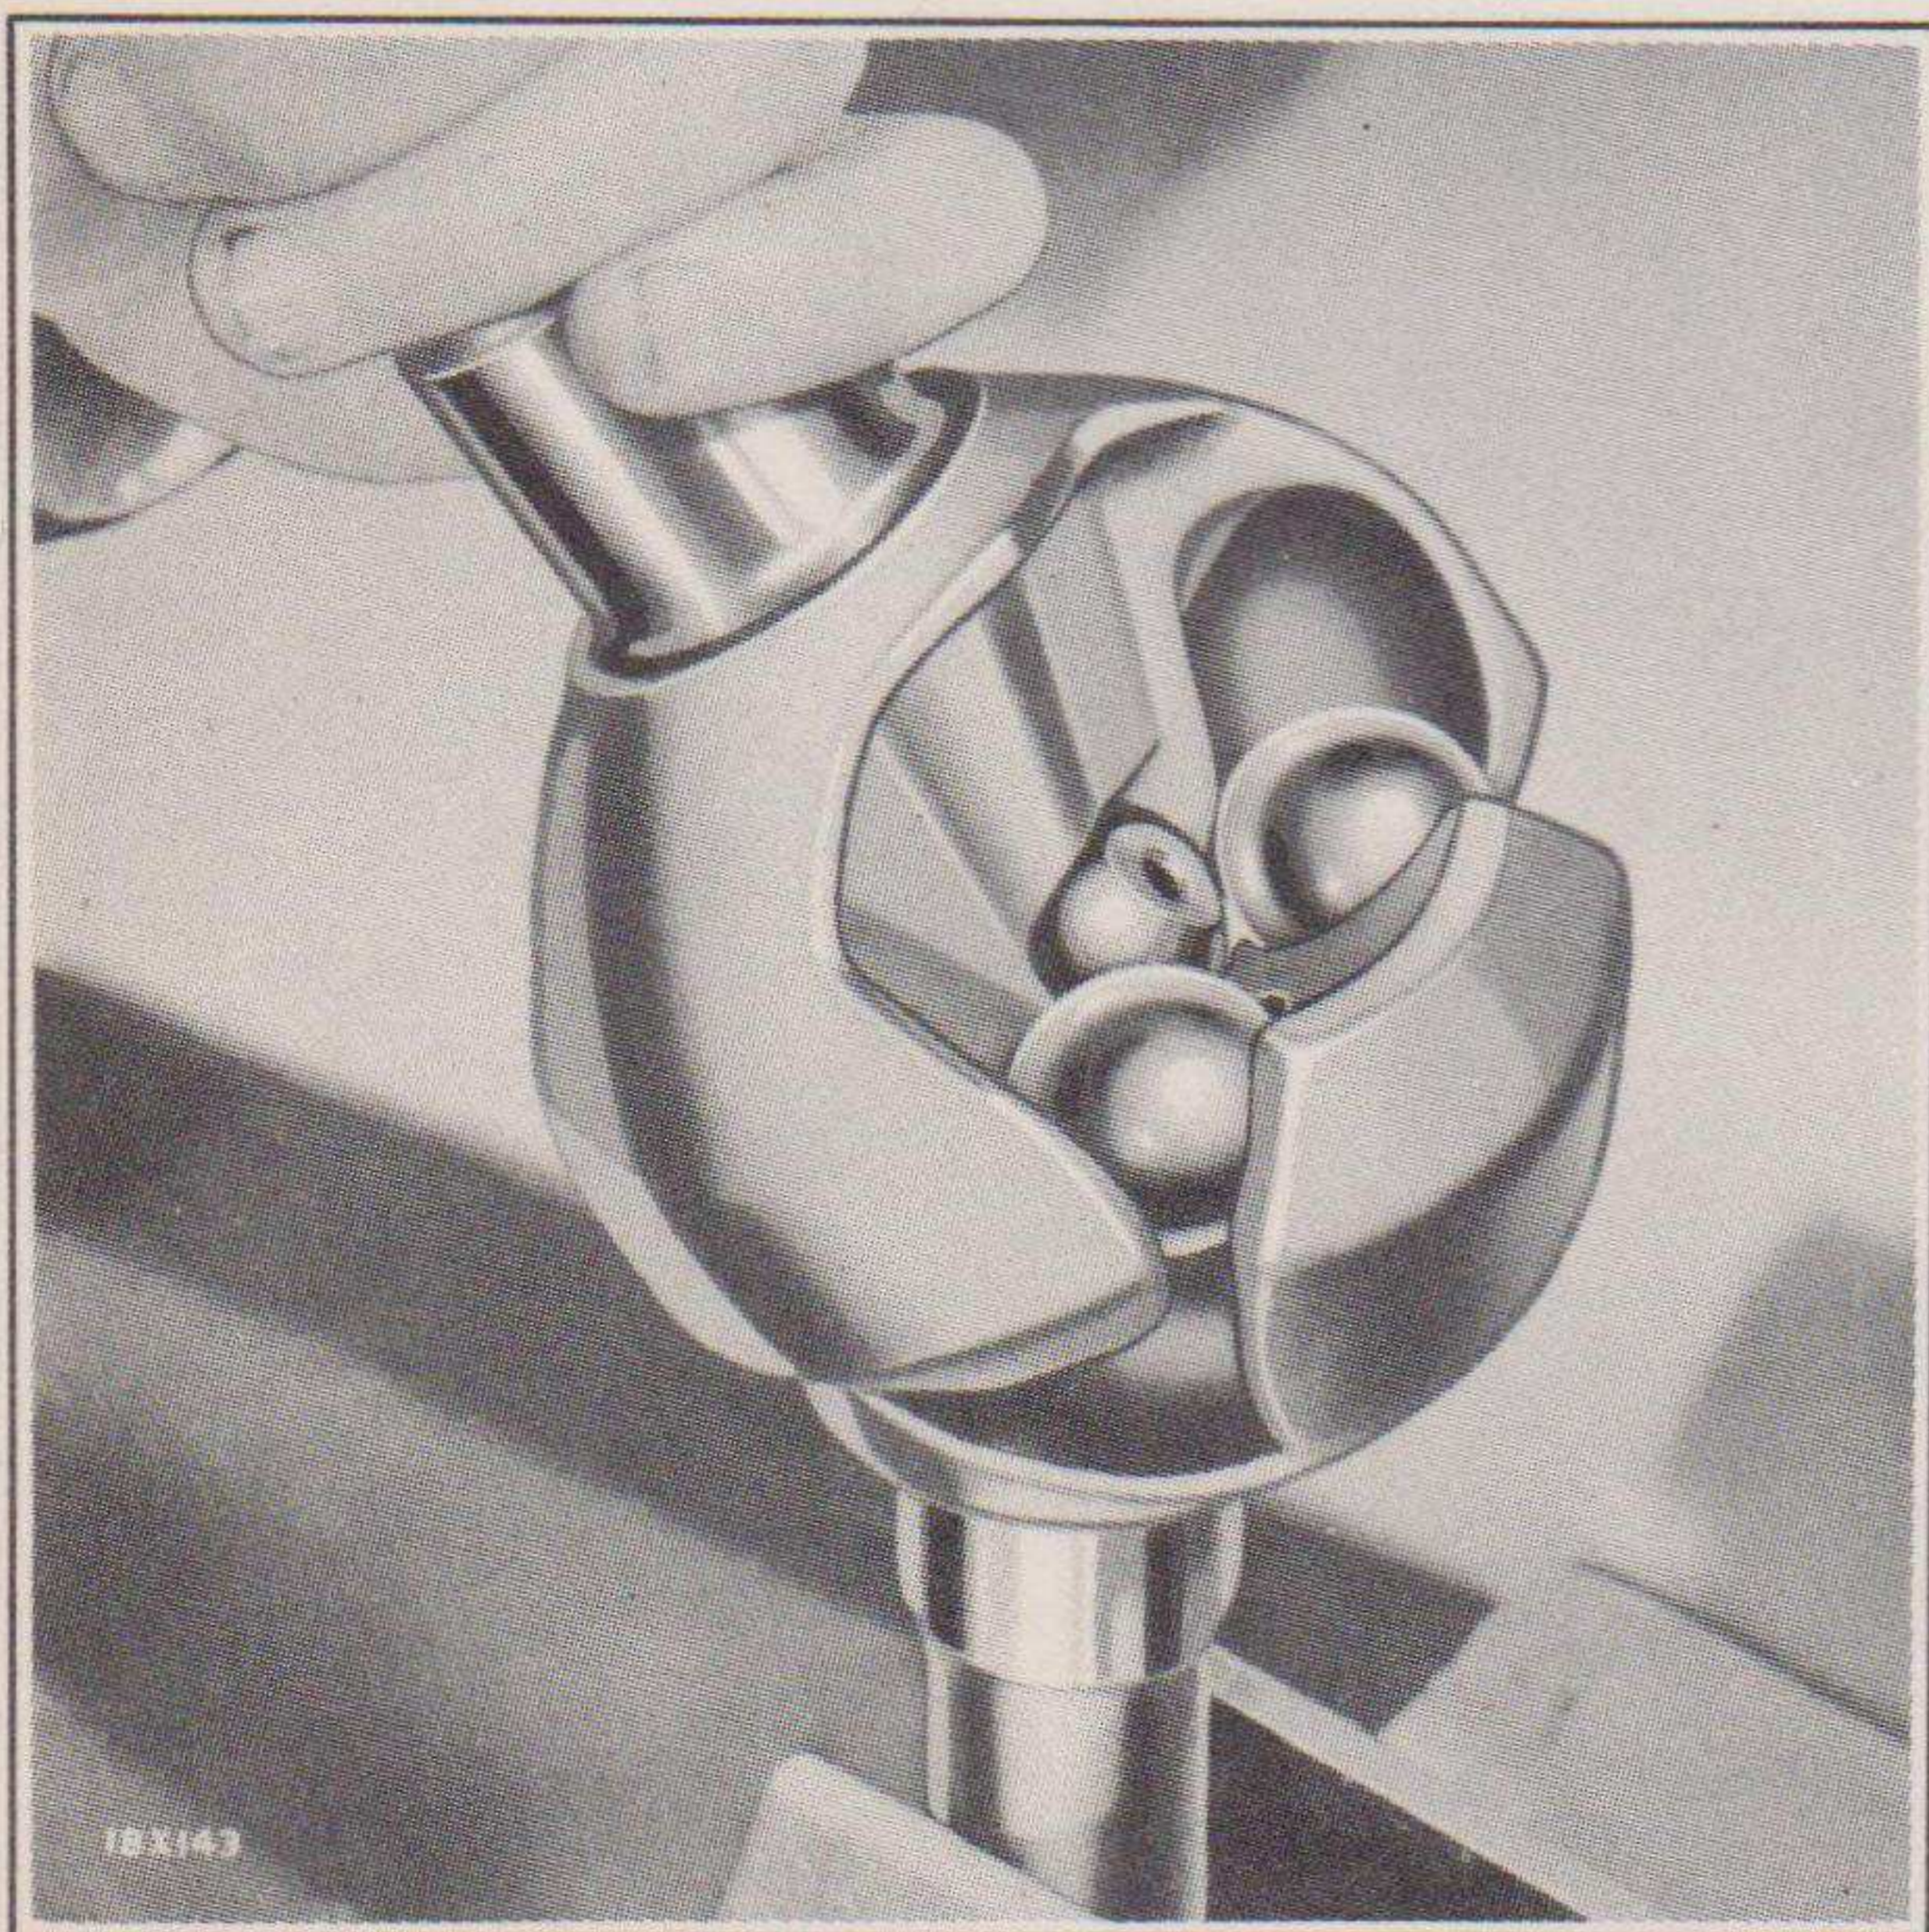

Fig. 18—Removing or Installing Universal Drive Balls
- (e) Swing the long shaft to one side as shown in Fig. 18 and at the same time raise it slightly to pull the two sections of the assembly apart and loosen the center ball. Then turn the center ball with the fingers so that the groove in it lines up with the race, to permit the adjacent driving ball to be moved past the center ball.